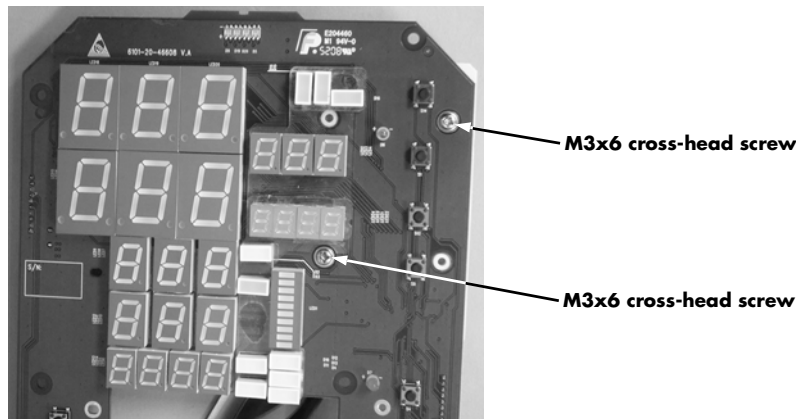

FIGURE 4-8 Remove two (2) M3x6 cross-head screws.
5. Remove the two (2) M3x6 cross-head screws (as shown in FIGURE 4-8), and take out the SpO₂ rack.